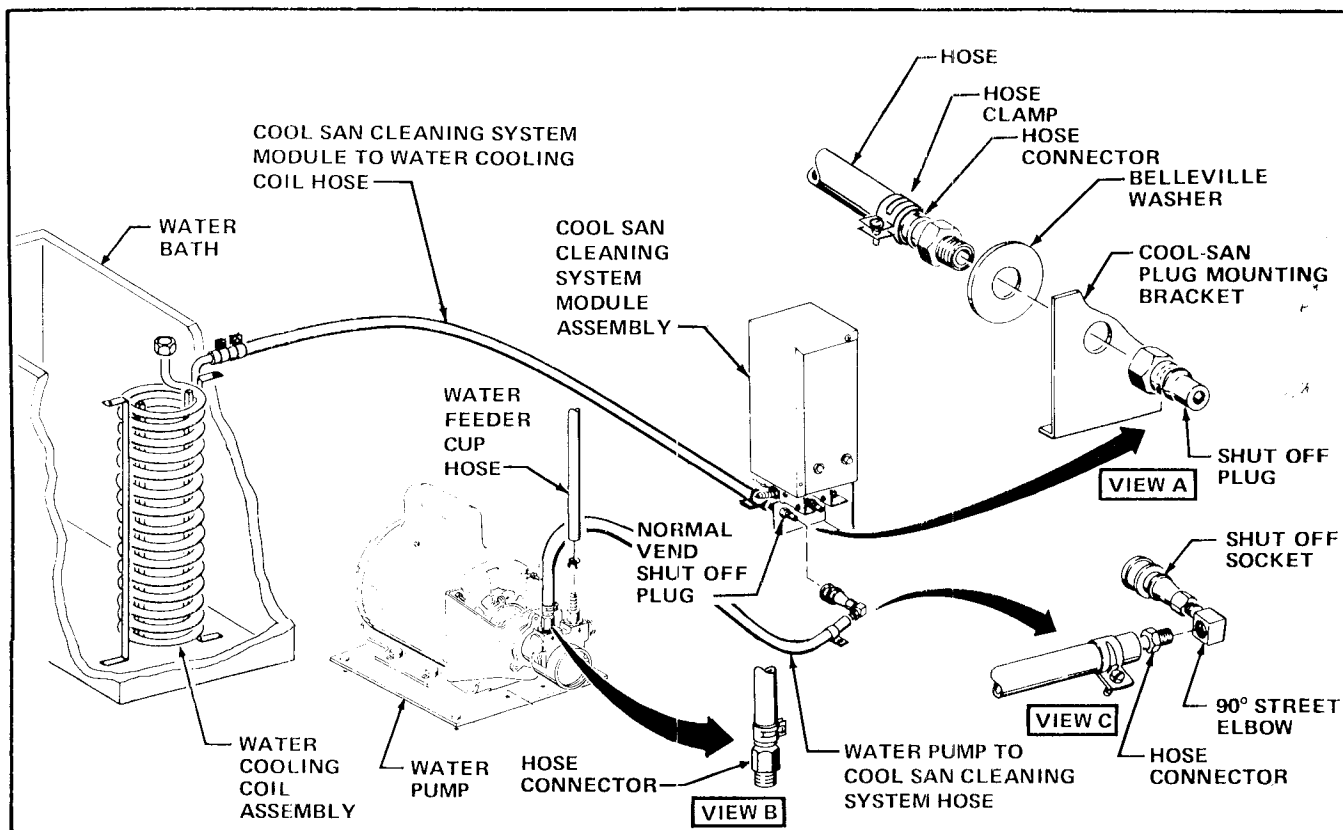

FIGURE 6
8. Remove the Water Feeder Cup Hose and Hose Clamp from the Water Pump Inlet Port and drain into the Waste Pail. See Figure 6.
9. At the Water Cooling Coil, loosen and move two Clamps attaching the Hose from the Cool-San[®] Cleaning System Module to the Water Cooling Coil. See Figure 6.
12. Disconnect the Shut Off Socket from the Normal Vend Shut Off Plug. See Figure 6.
13. Remove the Shut Off Plug from the Hose Connector at the Cool San Cleaning System Module Plug Mounting Bracket. See View A of Figure 6. Retain the Shut Off Plug for reuse.
14. Remove the Hose, Hose Connector, and Belleville Washer from the Cool San Cleaning System Plug Mounting Bracket. See View A of Figure 6.
9. Disconnect the Shut Off Socket from the Normal Vend Shut Off Plug. See Figure 6.
10. Remove the Cool San[®] Cleaning System Module to Water Pump Hose from the Water Pump Outlet Port. See View B of Figure 6.
11. Remove the 90 degree Street Elbow and Shut Off Socket from the Hose Connector and retain for re-use. See View C of Figure 6.